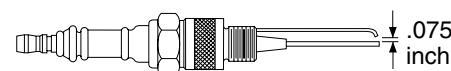

Figure 8 - Spark Plug Gap
5. Clean and regap spark plug electrodes to .075 inch (see Figure 8).